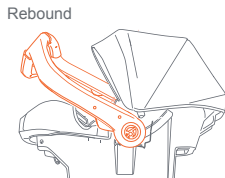

Fig. 49-3
11. Adjust carry handle to the correct position: **ONLY** use **Rebound** Handle position in vehicle. (Fig. 49-3).